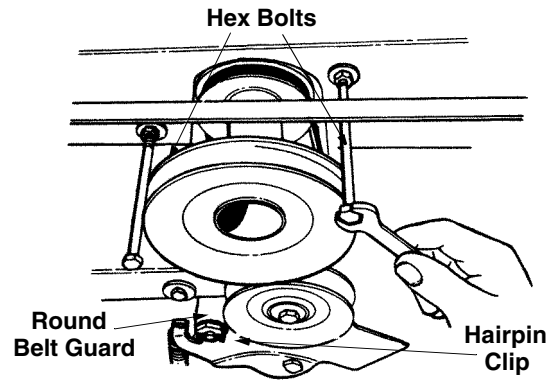

Figure 6
- Working beneath the tractor, remove the round belt guard from the idler by removing the hairpin clip. See Figure 6. Remove the two hex bolts which act as belt keepers by the engine pulley.
- Replace the hex bolts (belt keepers) by the engine pulley. Refer to Figure 6.